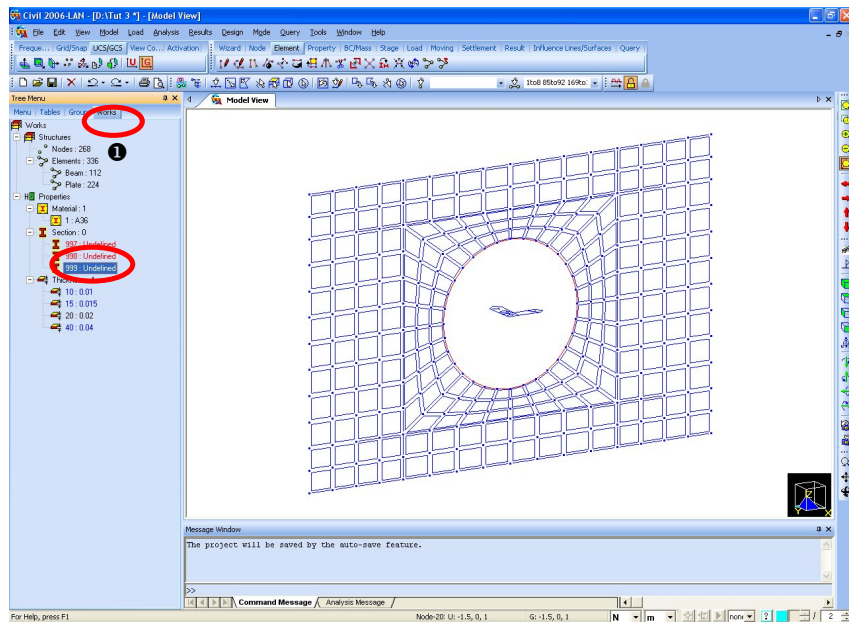

Figure 3.10 Section selection using Works Tree
3. Select the **Works** tab(Fig.3.10-①).